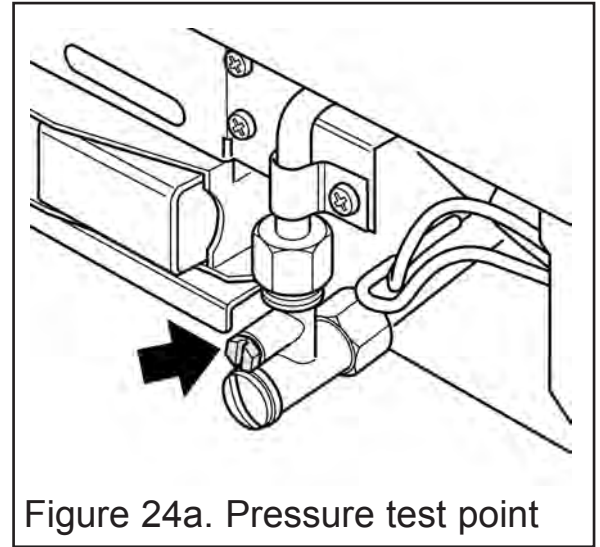

Figure 24a. Pressure test point
1. Ensure that the fire is turned OFF before removing the pressure test point sealing screw. Check the inlet pressure by fitting a pressure gauge at the test point. The test point is on the inlet 'T' connector (See figure 24a). Check the pressure with the appliance alight and set at maximum output.